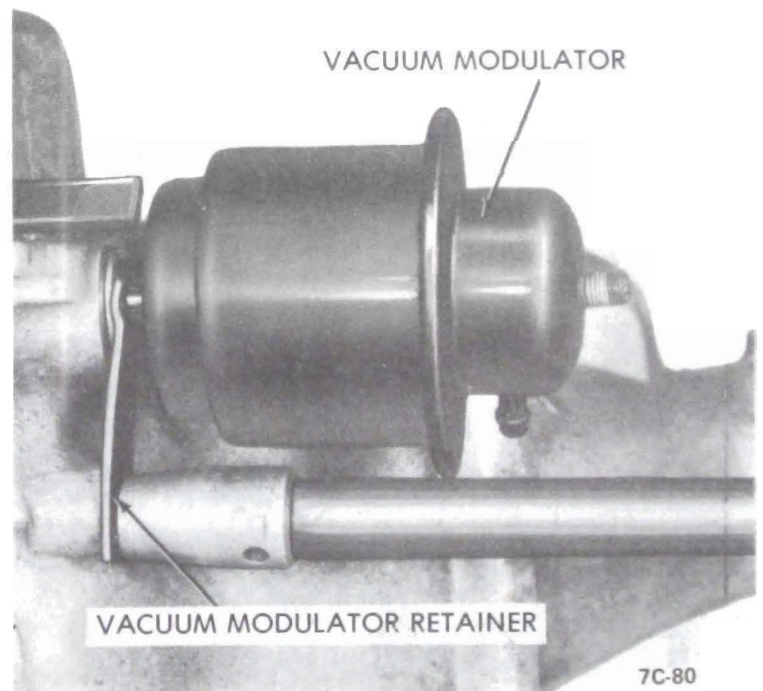

Figure 7C-80
2. Remove vacuum modulator assembly "O" ring seal and modulator valve from case. See Figure 7C-81.